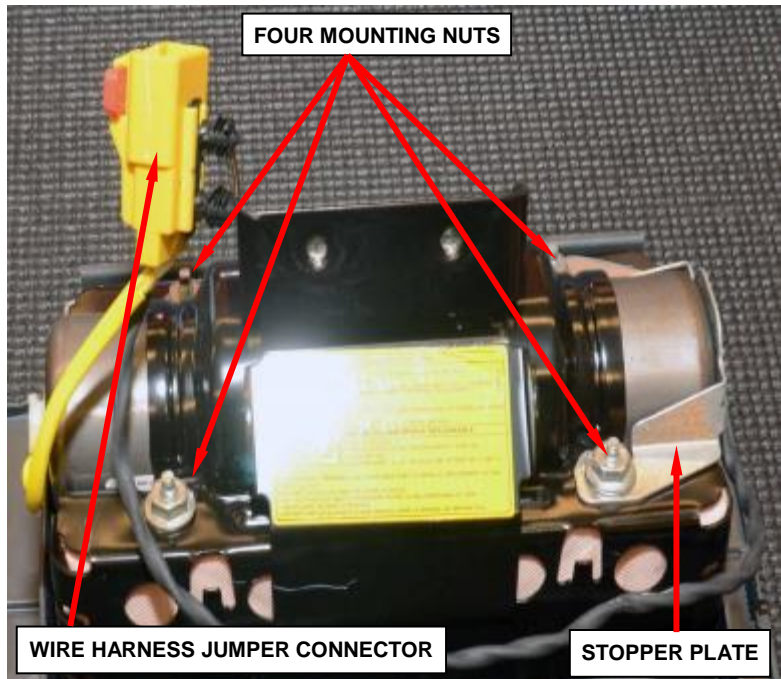

Figure 56 – Airbag Module
- d. Remove the yellow three way wire harness jumper connector from the housing bracket (Figure 56).
- e. Remove and discard the four mounting nuts, then remove the stopper plate from the passenger airbag module (Figure 56).
- h. Install the stopper plate to the passenger airbag module (Figure 56).
- i. Install the four new mounting nuts to the passenger airbag module and tighten to 53 in. lbs. (6 N·m) (Figure 56).
- j. Install the yellow three way wire harness jumper connector to the retaining clip (Figure 56).